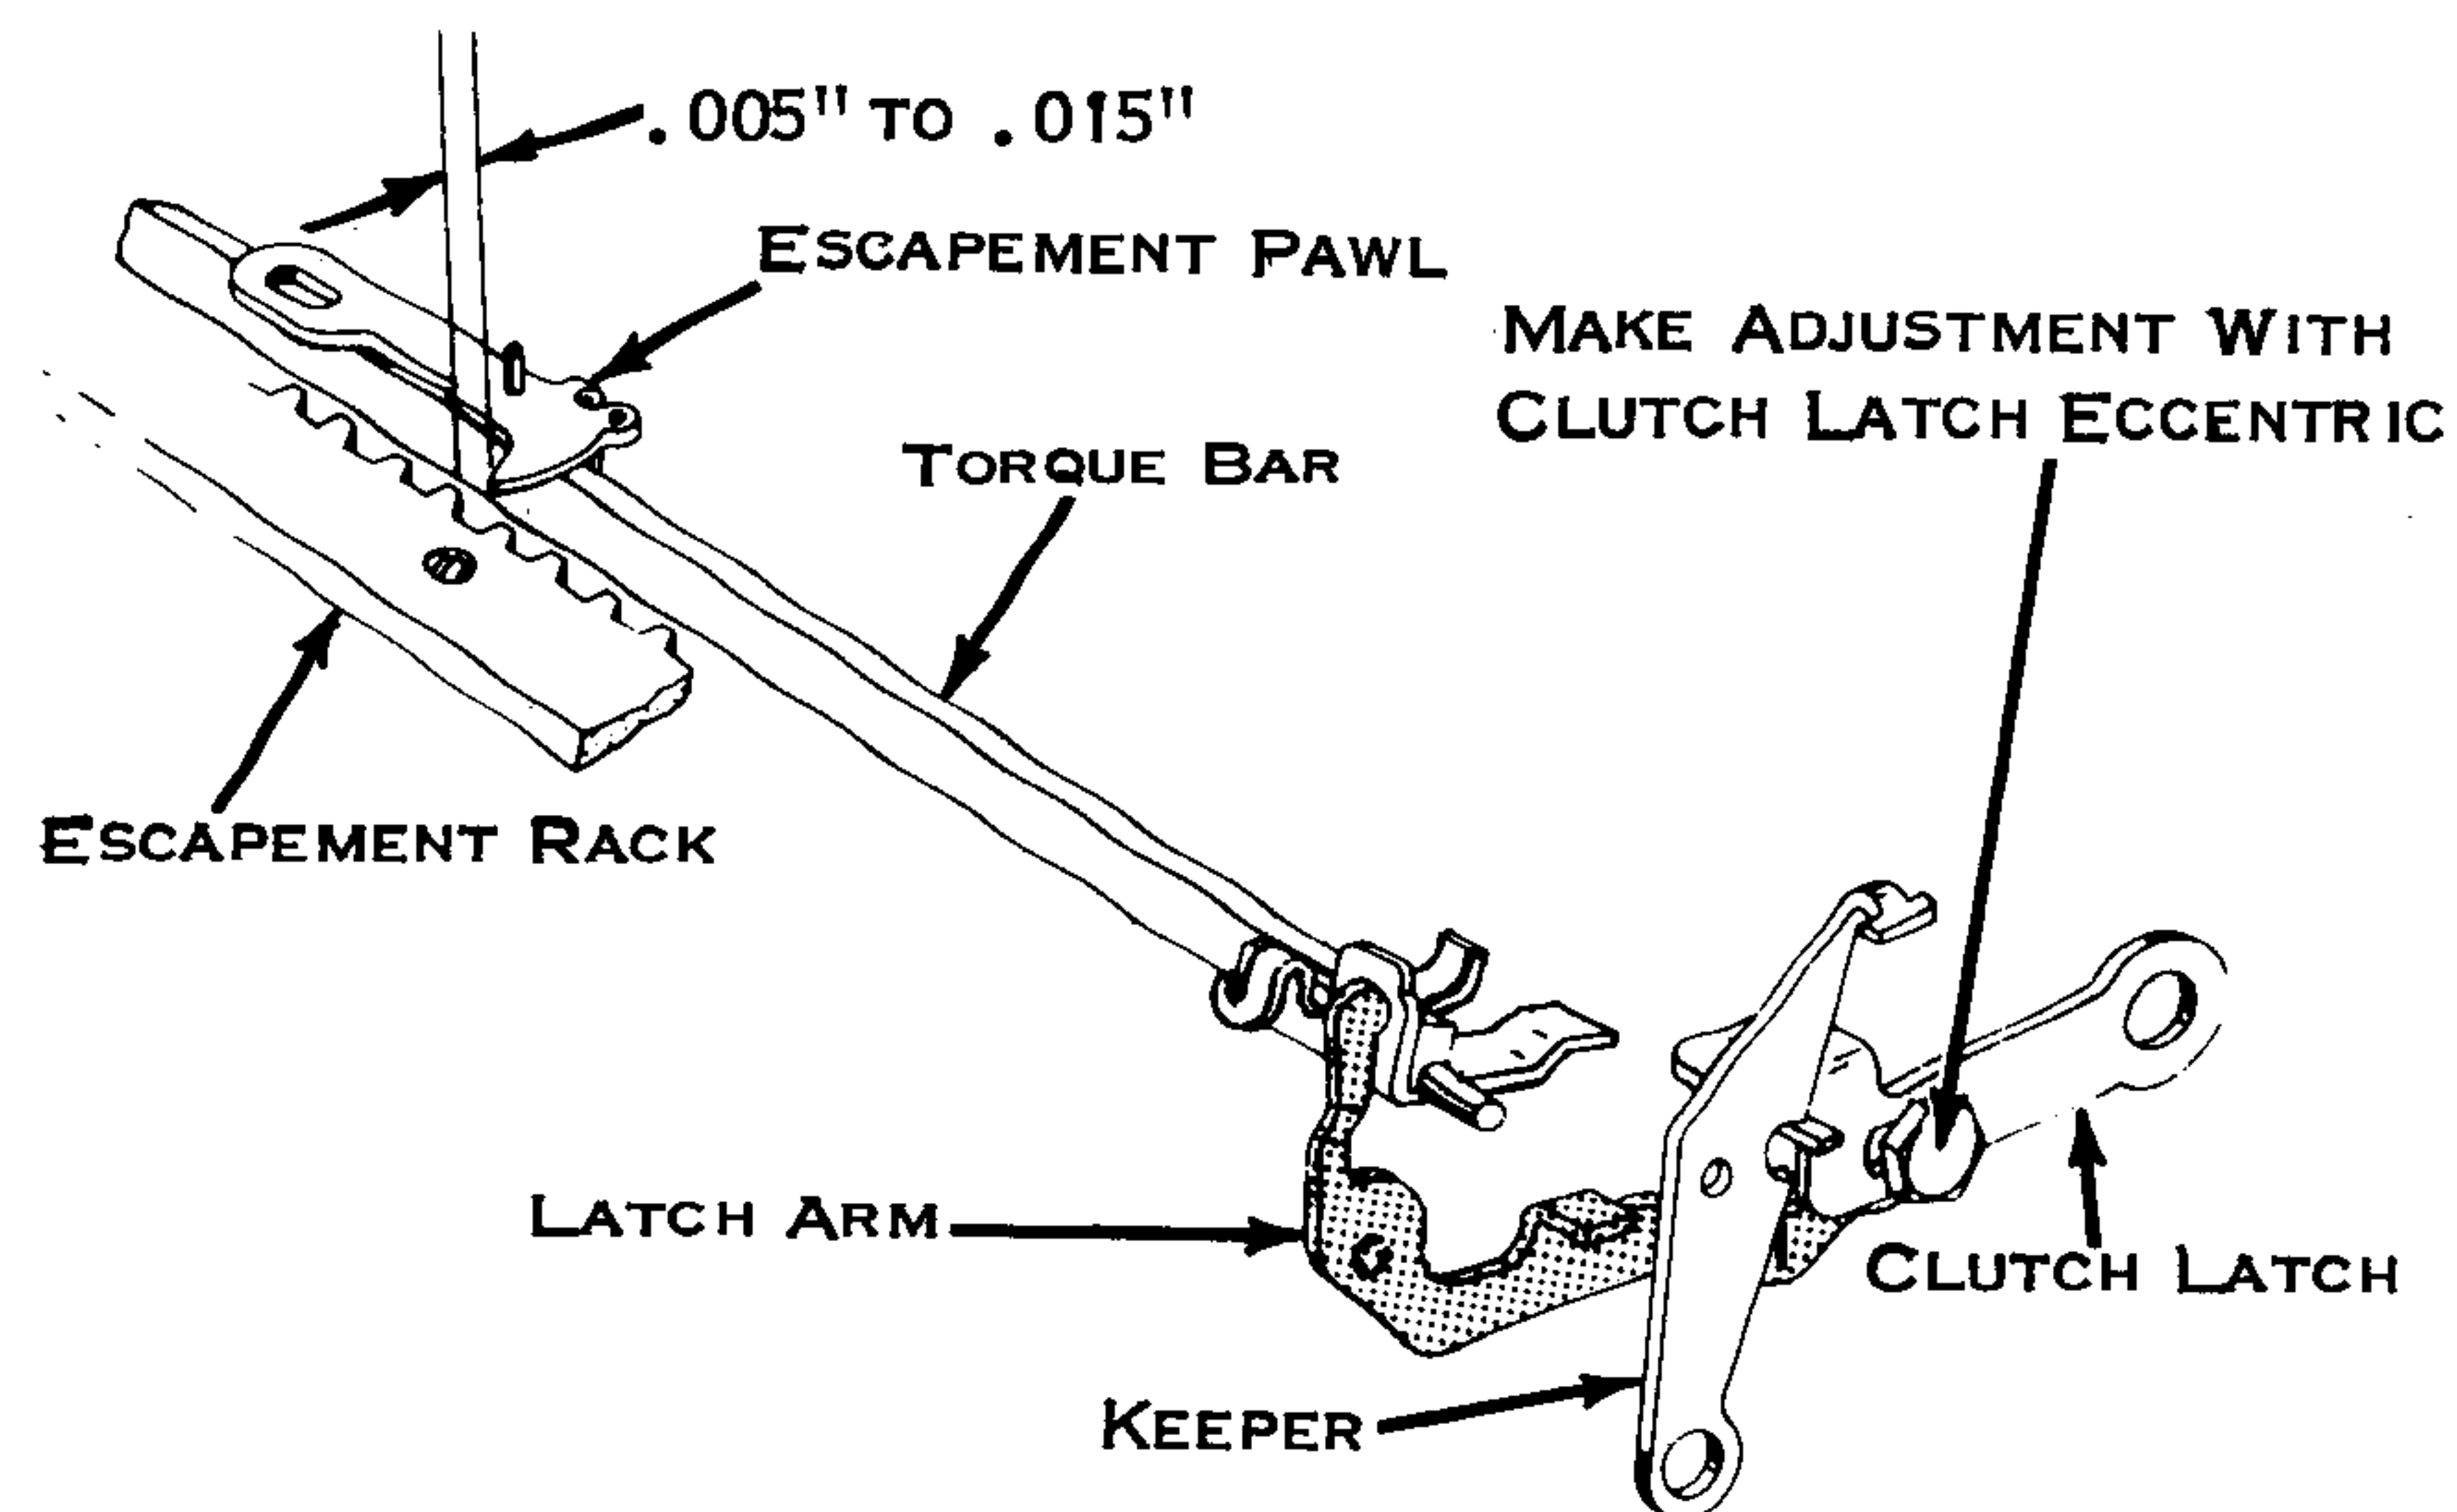

Figure 177. Pawl Clearance
1. Pawl Clearance (Fig. 177) - The clutch latch eccentric should be adjusted so that the escapement pawl will clear the rack teeth by .005" to .015" when the latch is being held down by the keeper. On 15" machines, this adjustment should be made after adjustments 3 and 4.